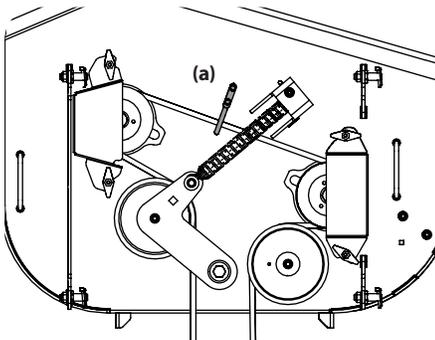
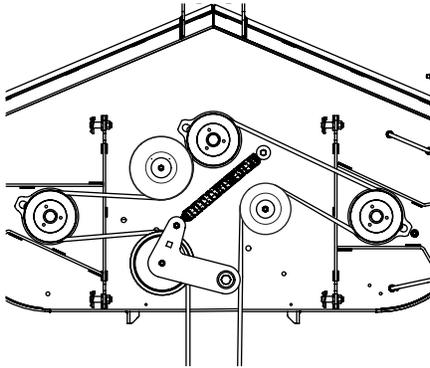

Figure 4-15
Figure 4-16
- Remove the belt from around the pulleys. On 36" decks, a belt keeper rod (a) will also need removed. Remove the two bolts securing the belt keeper rod (a) to the deck. See Figure 4-15.
- Route the new belt as shown in Figure 4-15 for 36" decks and Figure 4-16 for 48" and 54" decks. Then reinstall the deck.